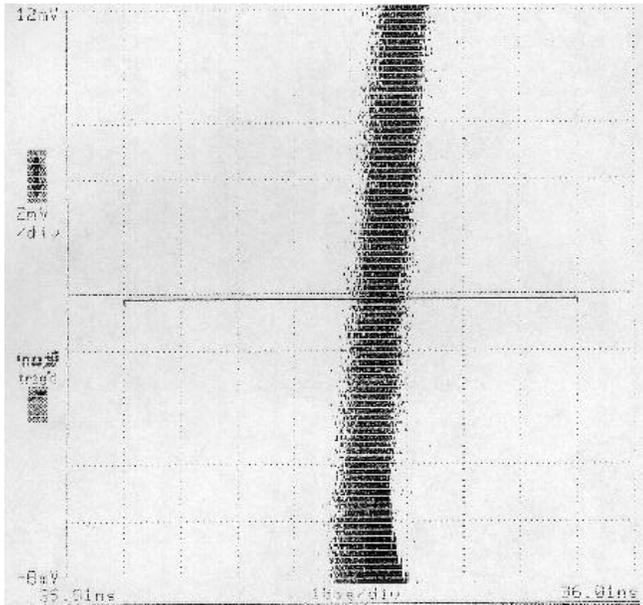

Figure 2
*High Power Supply Noise Immunity* - the OP4004B uses both differential active devices and differential SAW technology to minimize the effects of power supply noise on jitter and phase noise, as shown in Figures 2 and 3. Optical data communications circuits must switch relatively high levels of current, making power supply noise immunity an important clock requirement.